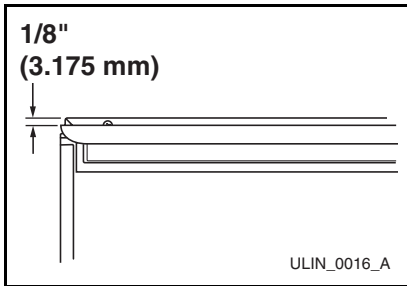

Figure 15
1. Compare the top edge of the door (opposite the hinges) to the top edge of the cabinet (**Figure 15**) and note the type (up or down) of adjustment needed.